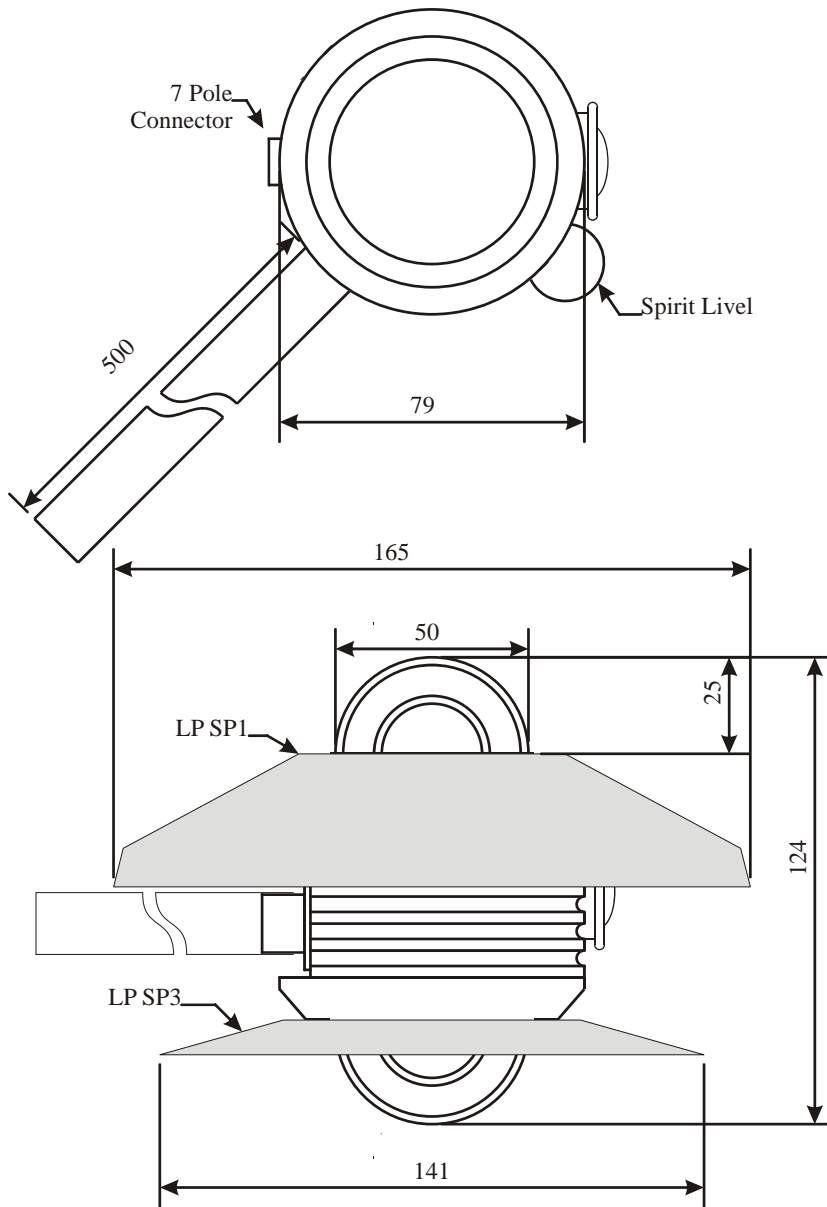

Fig 2
In order to grant the thermopile a proper thermal insulation from the wind and to reduce sensitivity to thermal irradiance, the LP PYRA 05 is equipped with two concentric domes on each side (figure 2), having a diameter of 50mm and 30mm, respectively.
- The LP PYRA 05 pyranometer is provided with a spirit level for carrying out an accurate horizontal leveling. Mounting can be made using the rod provided with the instrument (see Fig. 2).
Dimensions:	figure 2